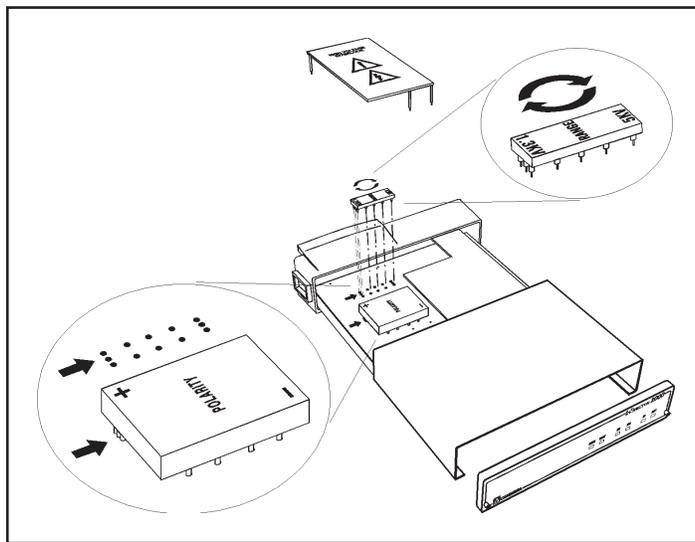

Figure 51 Changing the High Voltage Range
2. To change the HV Range, carefully grasp the HV Polarity Module and remove by lifting up and away from the Main HV board. Rotate 180 degrees so that the 1.3 KV polarity marking is positioned toward the polarity identifier arrow on the printed circuit board, see Figure 51. Carefully reinstall the high voltage Range Module into the printed circuit board. Make certain the Range Module is aligned and fully engaged with the associated connector pin sockets on the high voltage board.